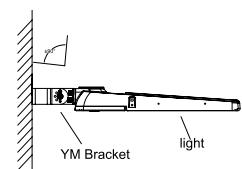

Figure 23
- NOTE: The trunnion mount can be adjusted ±90°. (see Fig. 23)